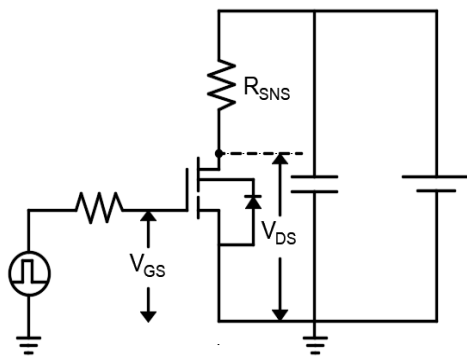

Figure 18. Dynamic $R_{DS(on)}$ Test Circuit
- a. Dynamic on-resistance; see Figure 18